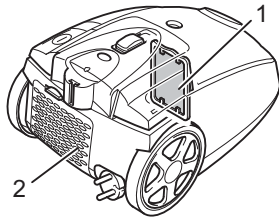

Fig. 22
■ **A protective motor filter (Fig. 22/1)** prevents larger particles from destroying the motor if the dust filter bag is defective.
■ **A hygienic exhaust filter (Fig. 22/2)** filters the finest particles from the blown-out air.